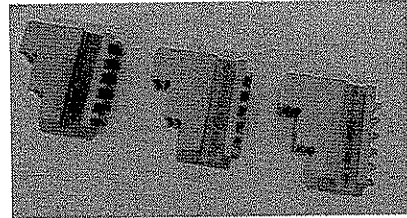

Fig. 32
7.11.6. The spindle chuck is supplied with two sets of positive and negative clamping jaws, on which 1, 2, and 3 is indicated, as shown in Fig. 32.